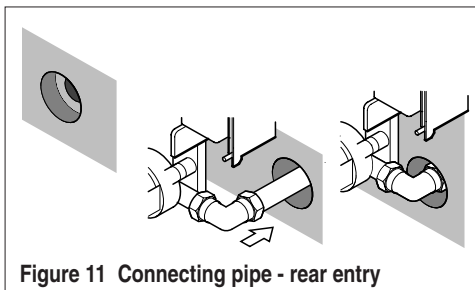

Figure 11 Connecting pipe - rear entry
5.11 Rear Entry. If the pipework is to enter from the rear, you must cut away the wall from around the pipe to allow room for the nut on the compression elbow to be recessed into the wall - see Fig. 11. The pipework must be connected to the elbow BEFORE the shower is fitted to the wall; if you were to fix the pipe in place first, you would not be able to get a spanner onto the compression nut.